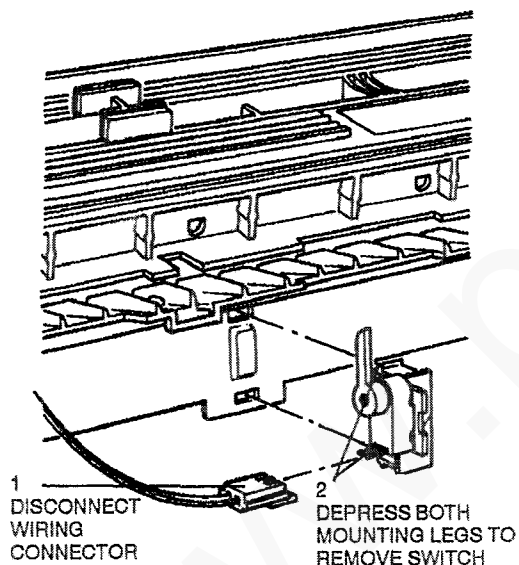

Figure 1. Paper output switch and bracket removal
2. (Figure 1) Remove the paper output switch and mounting bracket.